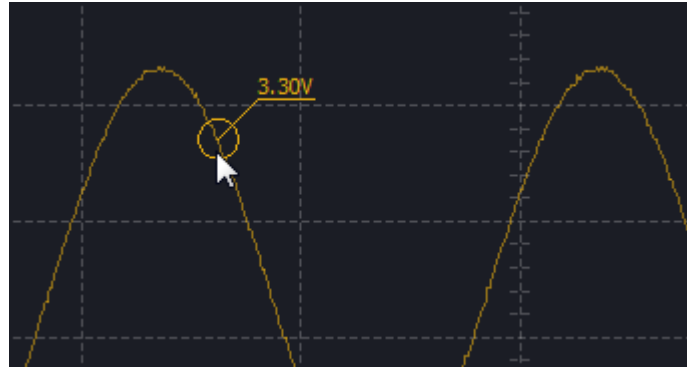

Figure 3-16
**Voltage Measurement:** As Figure 3-16 shows, in the wave window, move mouse to the target point of the waveform, the voltage of this point will show on the screen.